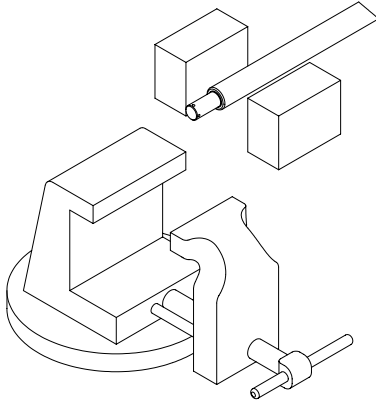

Figure 4-8, Cylinder Shaft
5. Clamp the rod assembly in a soft jawed vise on the wrench flats, **not on the rod surface**. If the rod does not have wrench flats use two pieces of wood on both sides of the rod to prevent scaring. (Figure 4-8)